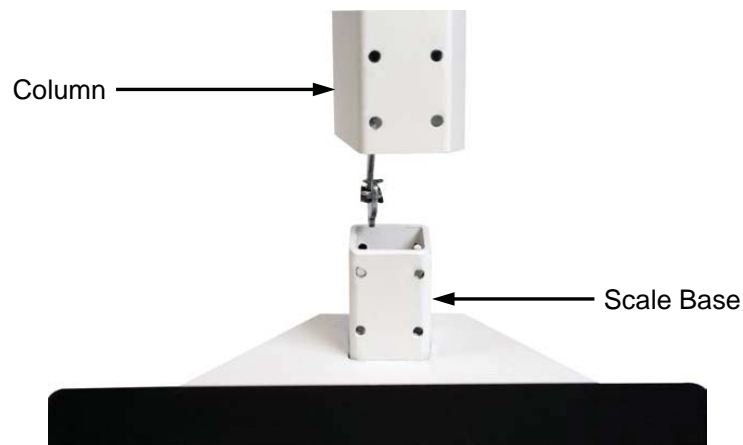

Figure 2. - Insert column onto scale base
3. Insert the column onto the scale base (shown in Figure 2), ensuring that the DETECTO logo on the weigh beam faces the scale base.